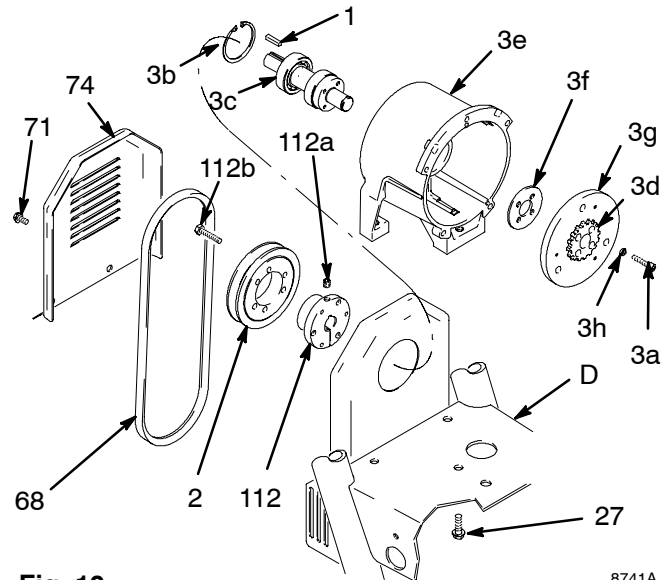

Fig. 10
8. Fig. 10. Remove drive belt shield (74) and belt (68).
9. Hold pulley (2) and remove four screws (3a) and washers (3h) from hub (3d). Remove armature (3g) and spacer (3f).
10. Remove set screw (112a) from bushing (112). Remove three bolts (112b) and three washers (112c). Use bolts to remove pulley from bushing. Remove pulley and key (1).
11. Remove three screws (27) from beneath mounting plate (D).
12. Lift off clutch housing (3).